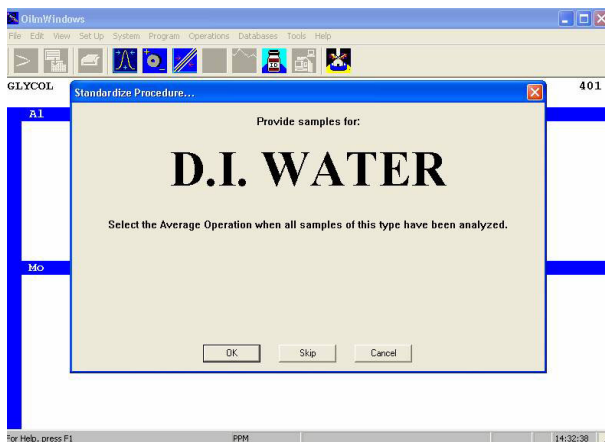

Figure 2-21, First Coolant Program Standardization Point
2. From the main analysis screen, press function key 7 (F7), choose the Standardization icon or select the Operations/Standardize pull down menu. The software will automatically clear all previous measurements from the video display. A dialog box with the name of the first calibration standard the instrument will expect to measure will appear. A blank water sample is used or this step and the dialog box will call for "D.I. Water, Figure 2-21.